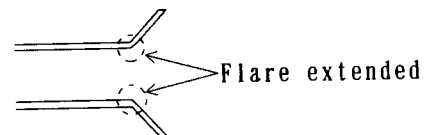

Fig.2
- ② To tighten the flare nut, use a torque wrench.
- ③ The flare part is extended and gas leakage may occur, if excessive force is applied to tighten the flare nut as shown in Fig. 2.